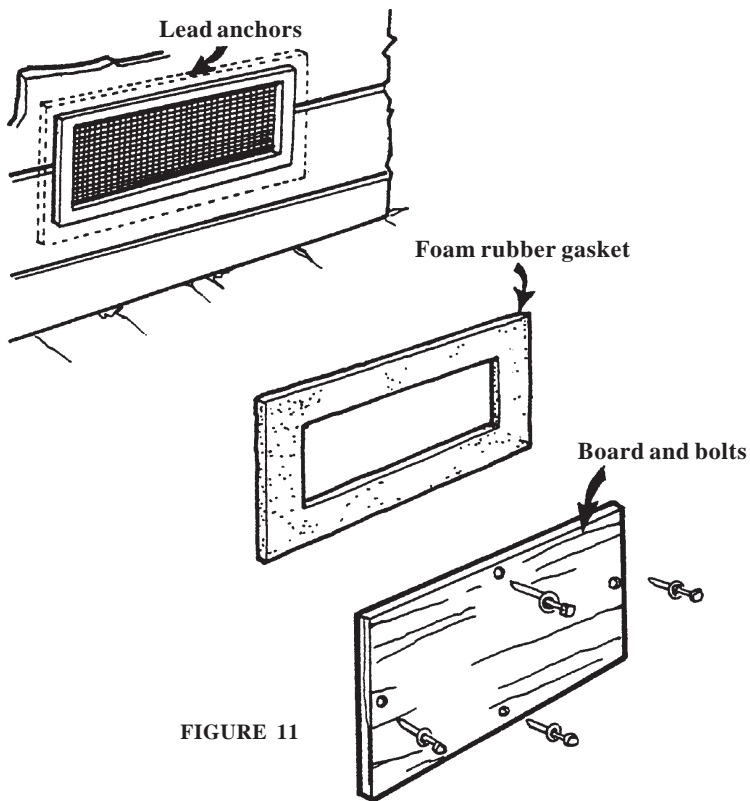

FIGURE 11
1. Use 3/4" plywood for baffle boards. Cut plywood to overlap the window or vent by 3 or 4 inches on all sides, as shown in Figure 11.